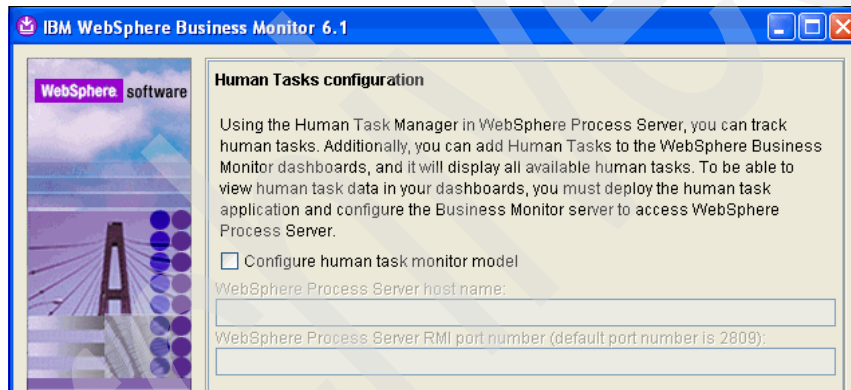

Figure 3-27 WebSphere Business Monitor installation: Human Tasks configuration
10. In the Human Tasks configuration panel (Figure 3-27), clear the **Configure human task monitor model** check box and click **Next**.